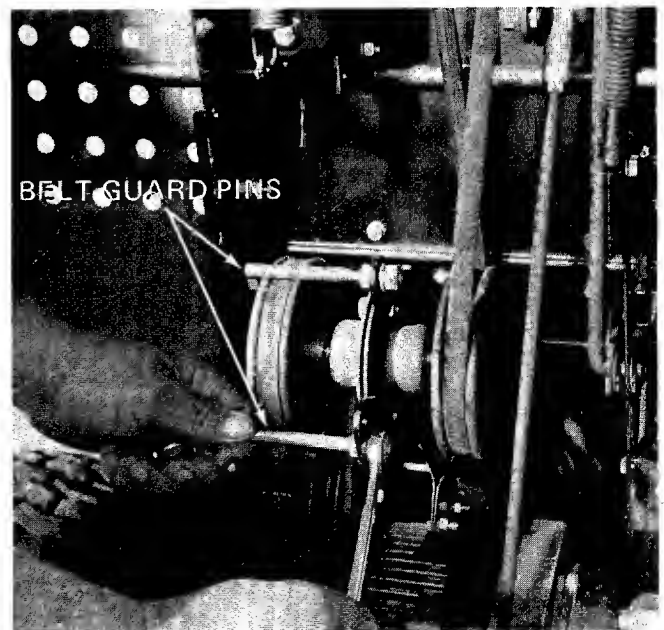

FIGURE 22.
4. Remove the two belt guard pins on the pulley assembly. See figure 22.